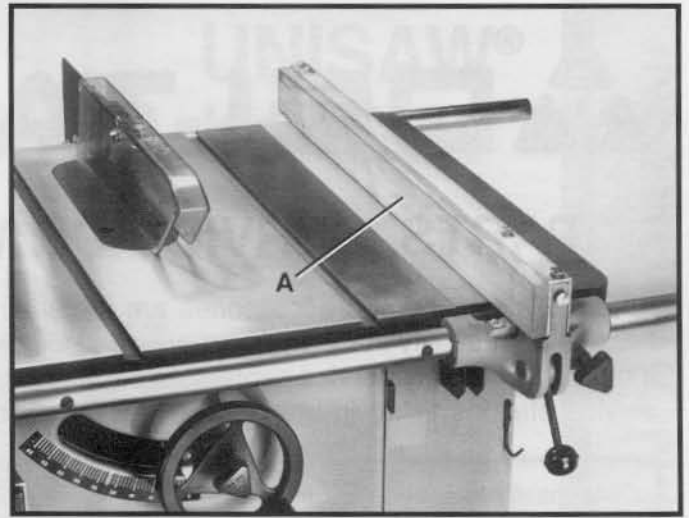

Fig. 71
It is necessary when performing special operations such as moulding to add wood facing (A) Fig. 71, to one or both sides of the rip fence, as shown. The wood facing is attached to the fence with wood screws through the holes provided in the fence. 3/4 inch stock is suitable for most work although an occasional job may require 1 inch facing.